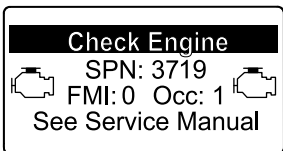

Figure 39
- Engine warning SPN 3719, FMI: 0 (Figure 39)